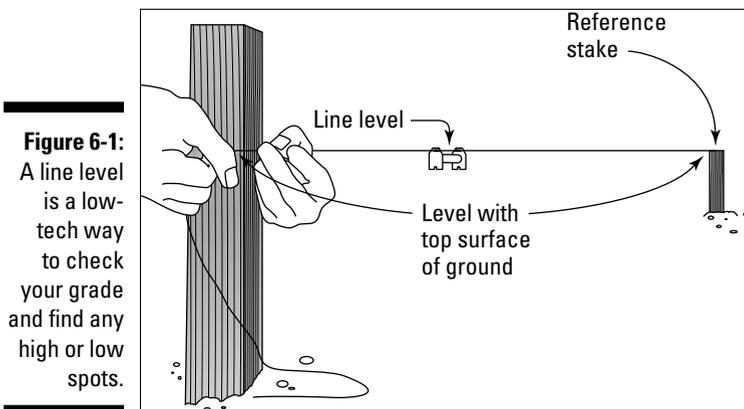

Figure 6-1: A line level is a low-tech way to check your grade and find any high or low spots.
4. Raise or lower the string against the second stake until the bubble reads level (see Figure 6-1).